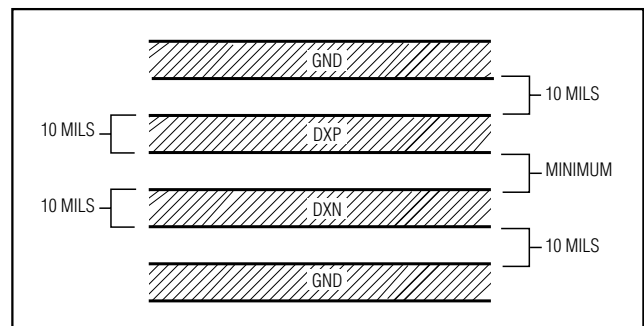

Figure 6. Recommended DXP/DXN PC Traces
- 3) Route the DXP and DXN traces in parallel and in close proximity to each other, away from any higher voltage traces, such as 12VDC. Leakage currents from PC board contamination must be dealt with carefully since a 20MΩ leakage path from DXP to ground causes about 1°C error. If high-voltage guard traces are unavoidable, connect guard traces to GND on either side of the DXP-DXN traces (Figure 6).
- 4) The 10-mil widths and spacing recommended in Figure 6 are not absolutely necessary, as they offer only a minor improvement in leakage and noise over narrow traces. Use wider traces when practical.